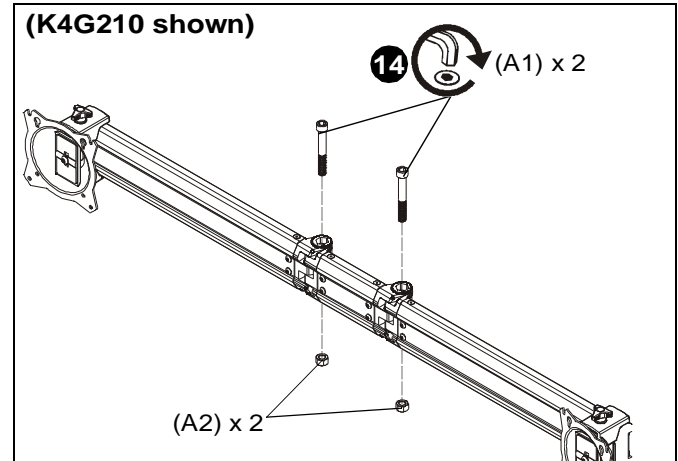

Figure 7
14. Use two 3/8-16 x 2 3/4" socket head carriage screws (A1) and two 3/8" lock nuts (A2) to secure left array arm (X) and right array arm (Y) to array center (AA or BB). (See Figure 7)